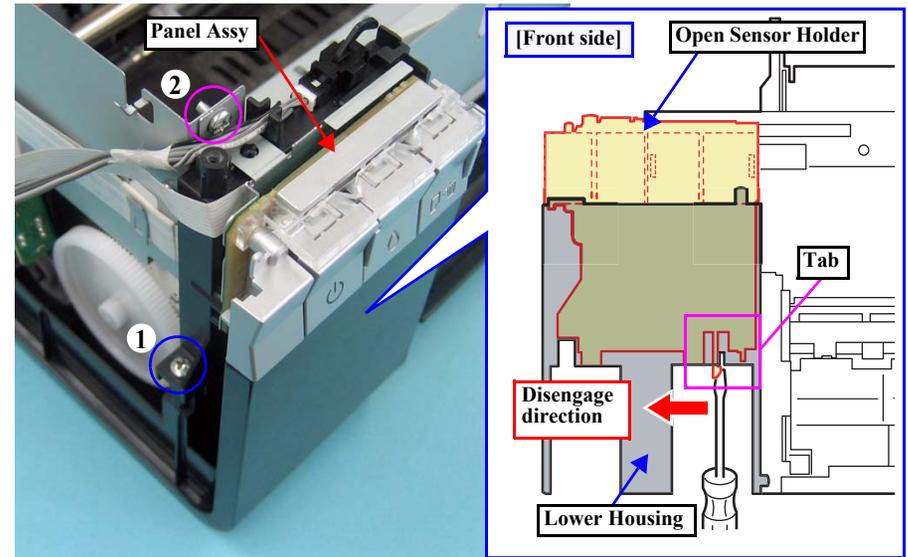
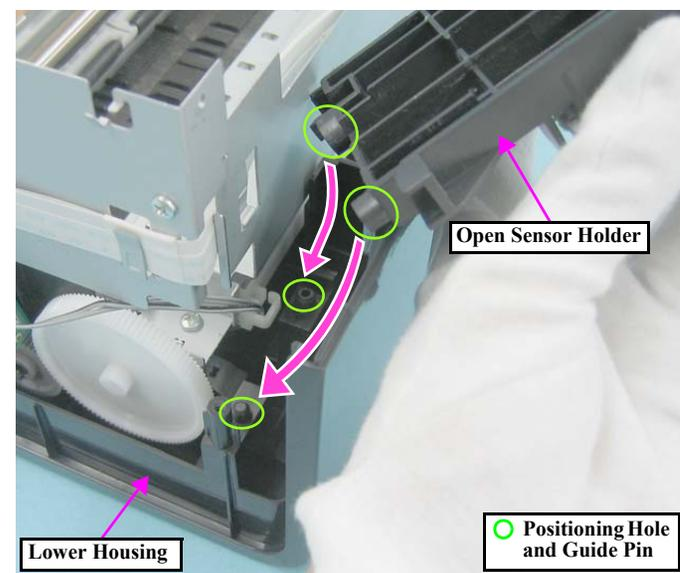

Figure 4-24. Removing the Panel Assy (2)
Figure 4-27. Installing the Panel Assy (2)
When removing the screw (2) shown in Fig.4-24, be careful not to damage the Cover Open Sensor Cable and CDR Sensor Cable.
- Screw (1) (3 pcs.): C.B.P. M3x6 (tightening torque: 5-7 kgf.cm) (No.1)
- Screw (2) (3 pcs.): C.B.P. M3x10 (tightening torque: 5-7 kgf.cm) (No.4)
- Tighten the screws in the order given in Fig.4-24.
- As shown in Fig.4-24 (p.67) and Fig.4-27, match the positioning holes of the Open Sensor Holder with the guide pins of the Lower Housing, and secure the Open Sensor Holder with the tab.